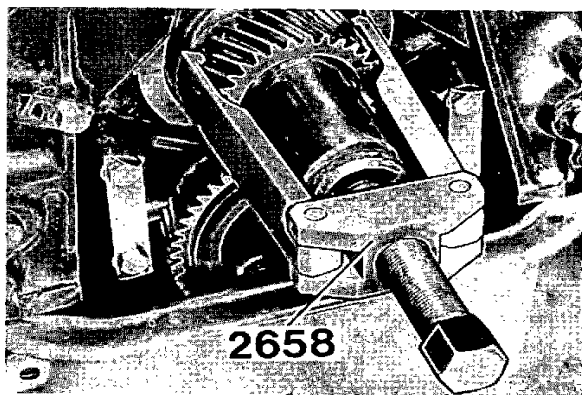

Fig. 65. Removing the crankshaft gear
8. Remove the crankshaft gear using puller 2658, (fig. 65).